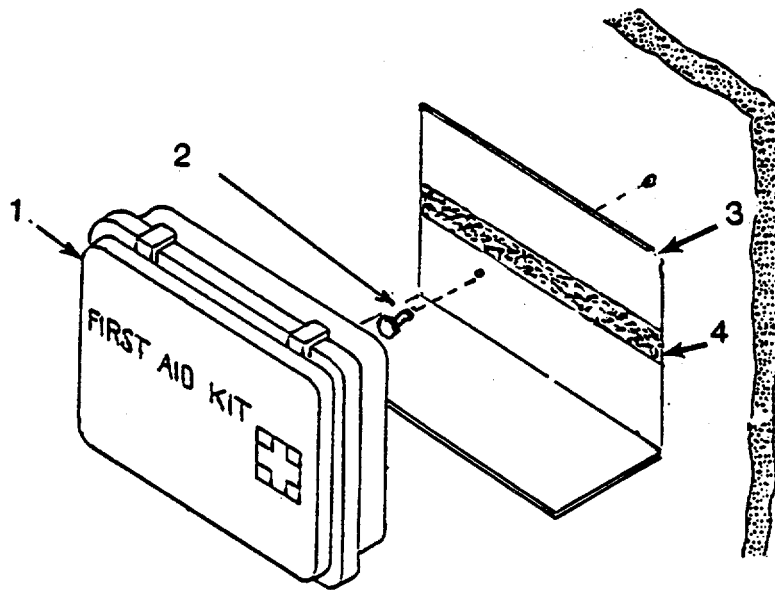

Figure 4-38. First Aid Kit
**a. Inspect.** (See Figure 4-38.)
- (1) Check first aid kit (1) for security of mounting.
- (2) Check first aid kit contents for inventory and condition.
**b. Replace.** (See Figure 4-38.)**NOTE**
- (1) Remove first aid kit (1).
- (2) Remove mounting bracket screws (2).
- (3) Remove mounting bracket (3).
- (4) Remove hook and pile fastener (4) from mounting bracket (3) and back of first aid kit (1).
b. Replace. - Continued (See Figure 4-38.)